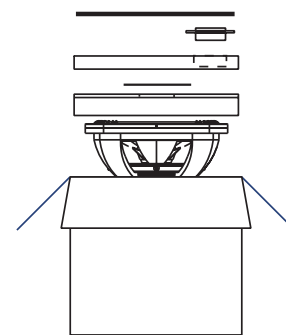

Fig.1
1. With assistance from a friend (or an engine hoist) remove the SoloX from the cardboard facilitation chamber or "box" if you will. Fig. 1